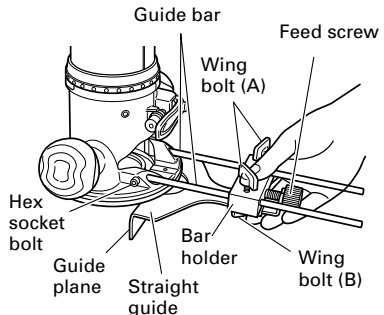

Fig. 9
- ① Insert the guide bar into the hole in the bar holder, then lightly tighten the 2 wing bolts (A) on top of the bar holder.
- ② Insert the guide bar into the hole in the base, then firmly tighten the 2 hex socket bolts (standard accessories).
- ③ Make minute adjustments of the dimensions between the bit and the guide surface with the feed screw, then firmly tighten the 2 wing bolts (A) on top of the bar holder and the wing bolt (B) that secures the straight guide. (Fig. 9)